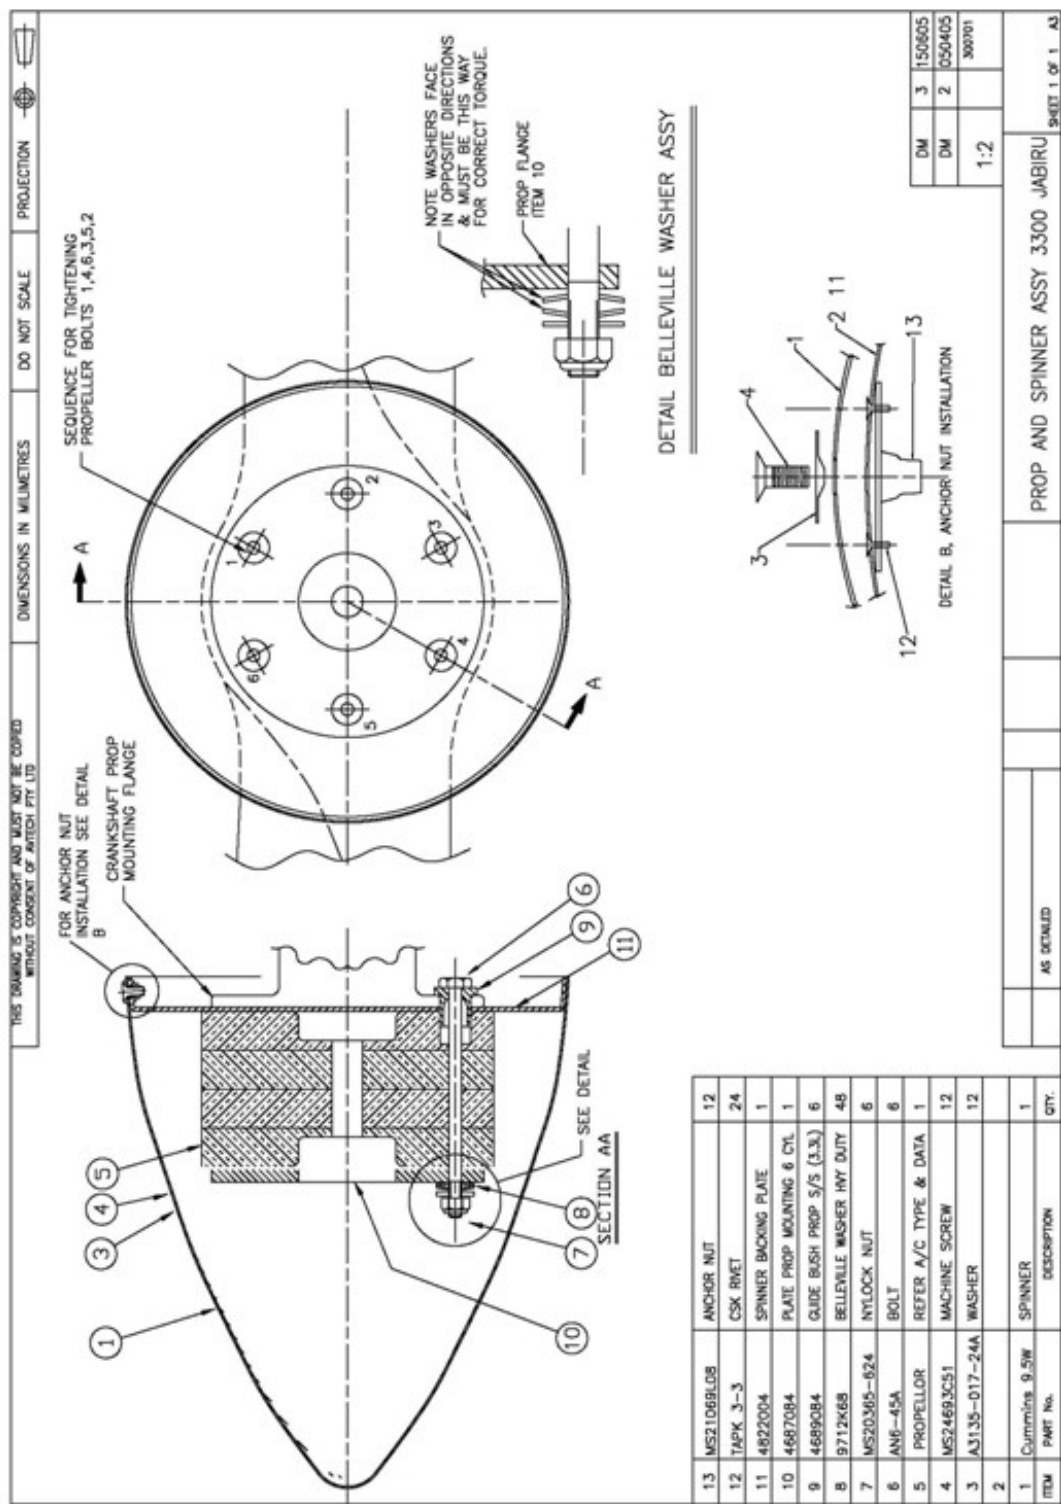

Figure 9-1: Prop Mount Detail
6. Install two Belleville washers on each prop bolt as shown in Figure 9-1.
9. Torque to 15-17 ft-lbs in the sequence indicated in Figure 9-1.
3. Set torque wrench to 15-17 ft-lbs. Check tension of nuts by moving in a criss-cross pattern around the hub (see Figure 9-1 for torque pattern). Use box-end wrench to hold bolt heads secure.
6. Use torque wrench to tighten bolts to between 15 and 17 ft-lbs of torque, moving in a criss-cross pattern around the hub (see Figure 9-1 for torque pattern).